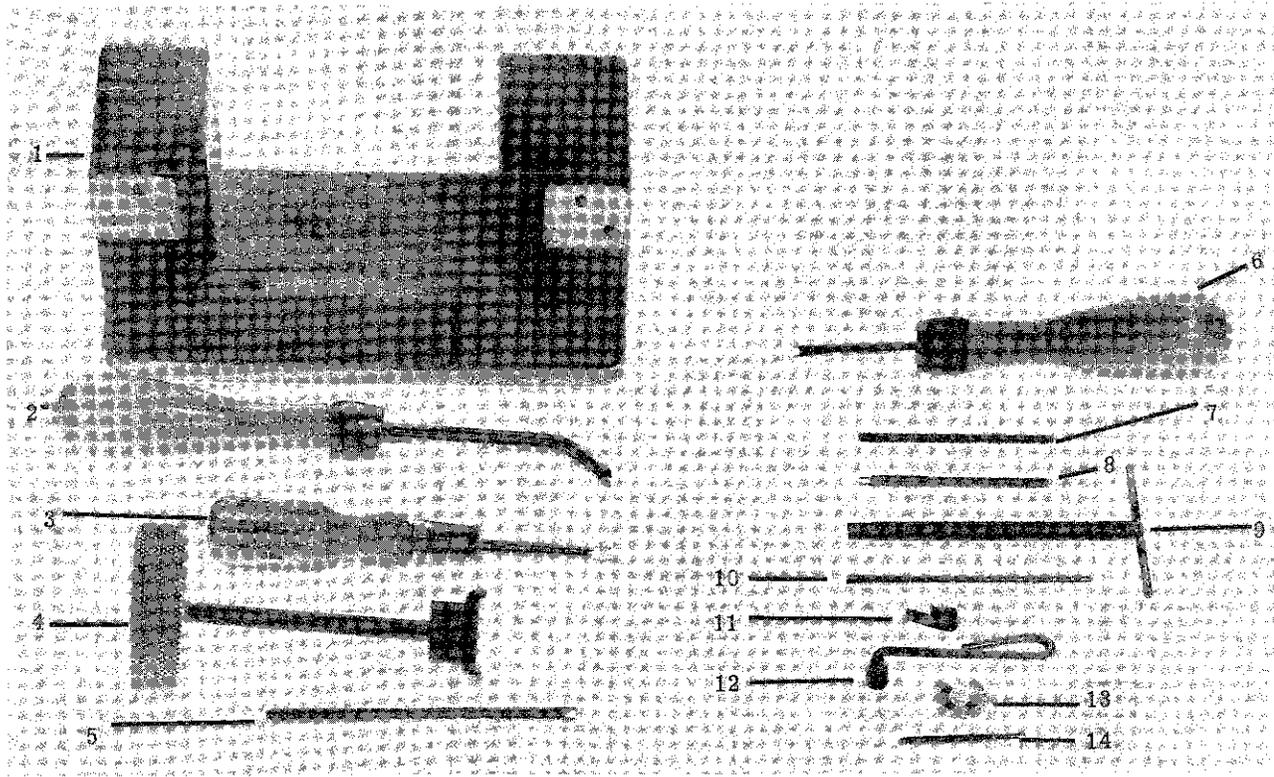

Figure 1. Special Tools
4.1. Special Tools (Figure 1).